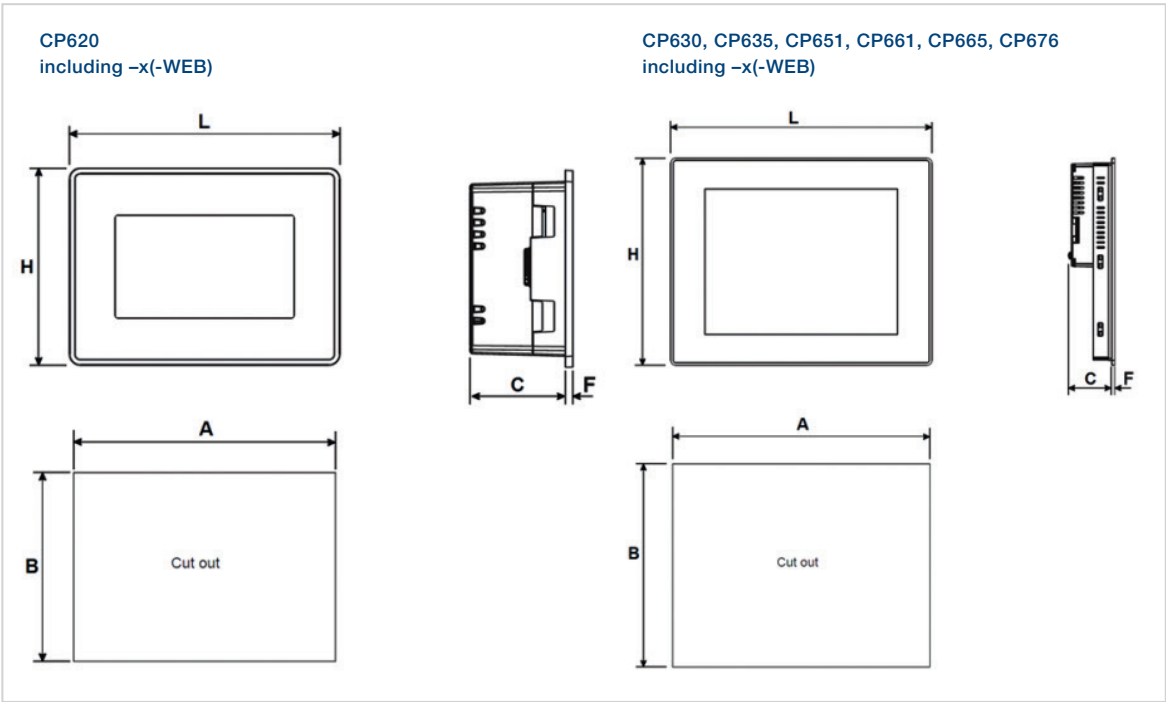

Fig.21: Cut-out size dimensions of the CP series panels
- The cut-out size for the control panels are displayed in Fig.21